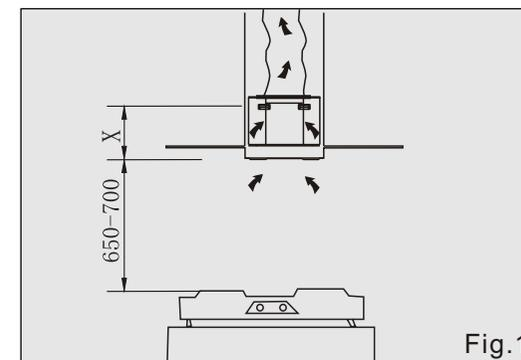

Fig.1
- Rest the support bar against the wall at a height from the cooktop determined by the sum of the distance  $X + (650\sim 700)$ mm(Fig. 1).